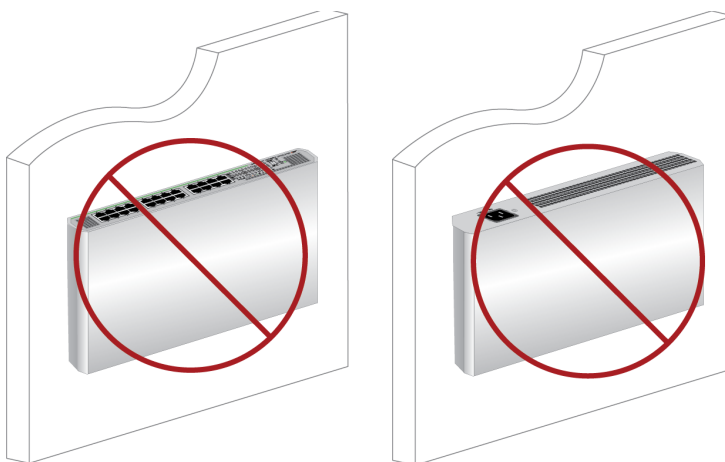

Figure 19. Incorrect Wall Installation
- ❑ Mounting the front panel facing up or down on the wall is incorrect for both AT-GS910/16 and AT-GS910/24 switches. See Figure 19 as examples.